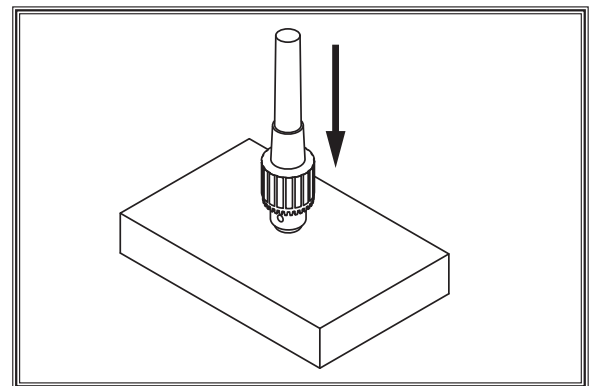

Figure 13. Tapping drill chuck/arbor on block of wood.
4. Hold assembly by arbor and tap chuck onto a block of wood with medium force, as illustrated in Figure 13.